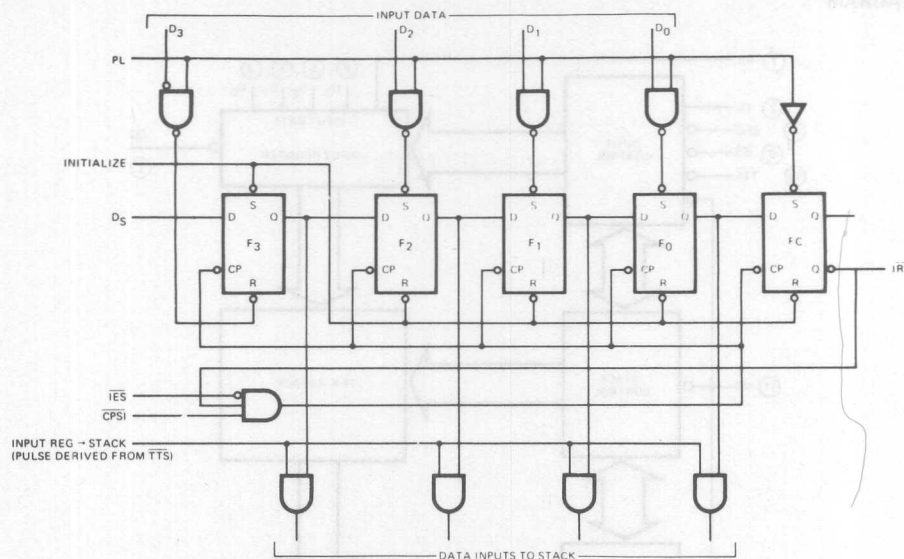

Fig. 1
Figure 1 is a conceptual logic diagram of the input section, as described later, this 5-bit register is initialized by setting the F3 flip-flop and resetting the other flip-flops. The Q-output of the last flip-flop (FC) is brought out as the "Input Register Full" output (IRF). After initialization this output is HIGH.